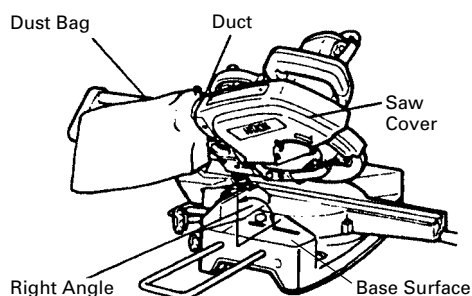

Fig. 36
(1) When the dust bag has become full of sawdust, dust will be blown out of the dust bag when the saw blade rotates. Check the dust bag periodically and empty it before it becomes full.
(2) During bevel and compound cutting, attach the dust bag at a right angle to the base surface as shown in Fig. 36.